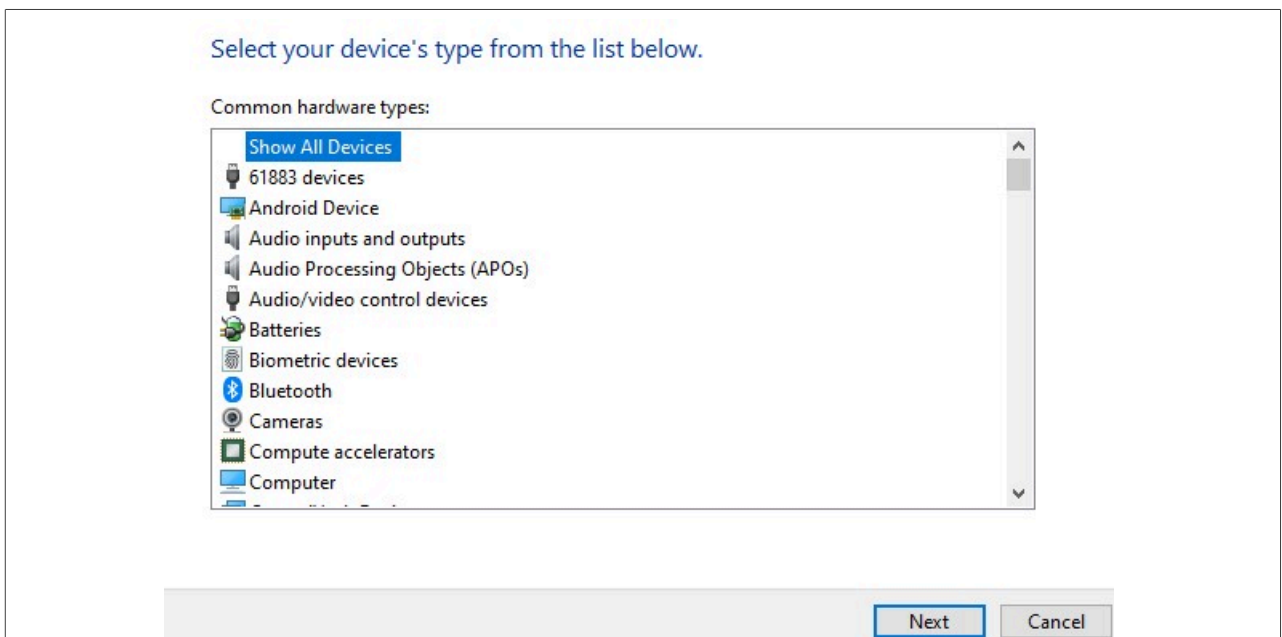

Figure 20. Android Device
4. Select "Android device" (see Figure 20).